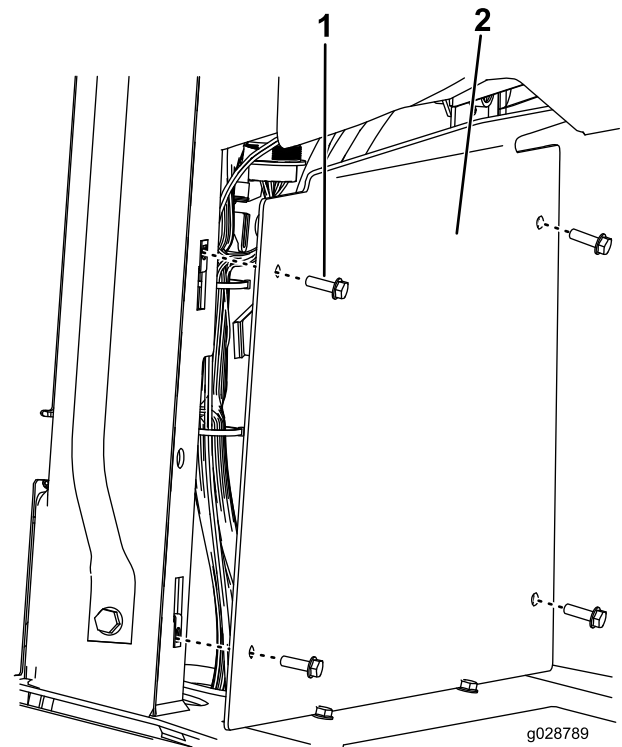

Figure 12
2. Remove the kick panel beneath the dashboard (Figure 12).
10. Install the kick panel (Figure 12).